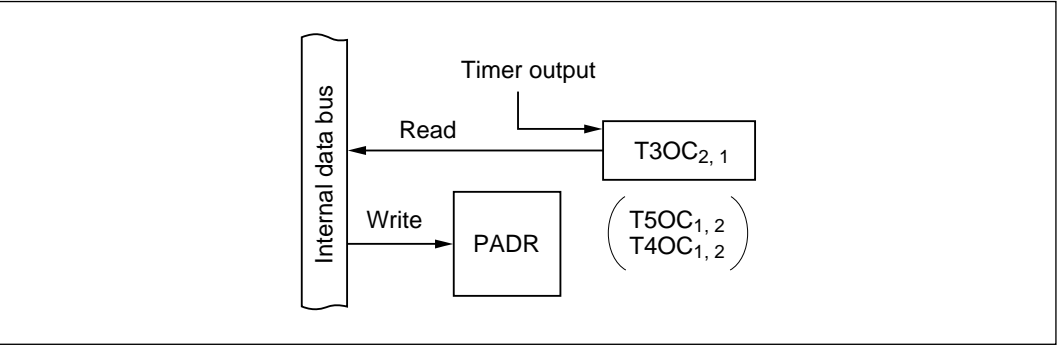

Figure 10-68 Output Compare Pins (Modes 1 to 7)
(6) **Timer Output Pins (PA₆, PA₅, PA₃ to PA₀; Modes 1 to 7):** Figure 10-68 shows a block diagram illustrating the timer output function. Table 10-52 indicates register read/write data. When PA₆, PA₅, and PA₃ to PA₀ are used for T3OC₂, T3OC₁, T5OC₂, T5OC₁, T4OC₂, and T4OC₁ output, values written in the port A data register (PADR) have no effect on the timer output. PADR can be read to monitor the timer output level (T3OC₂, T3OC₁, T5OC₂, T5OC₁, T4OC₂, T4OC₁).